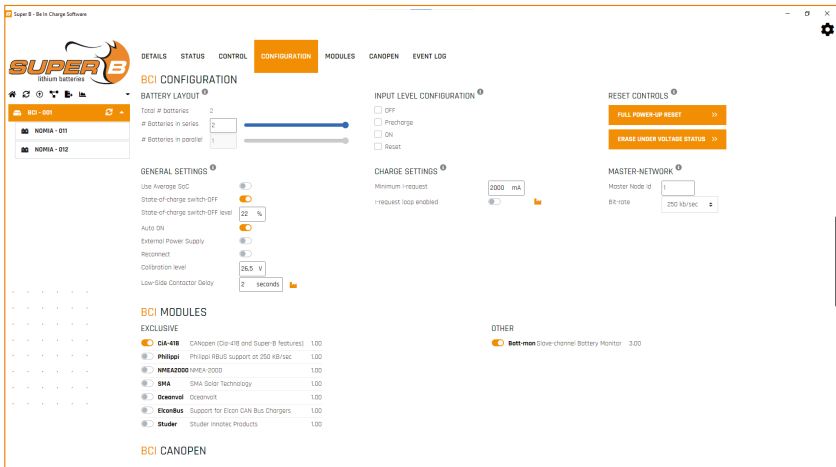

Figure 17. BCI Configuration
3. In order to make changes to battery node ID it is necessary to set the user level to 'Expert User' or 'Integrator' (Figure 17 and 18).